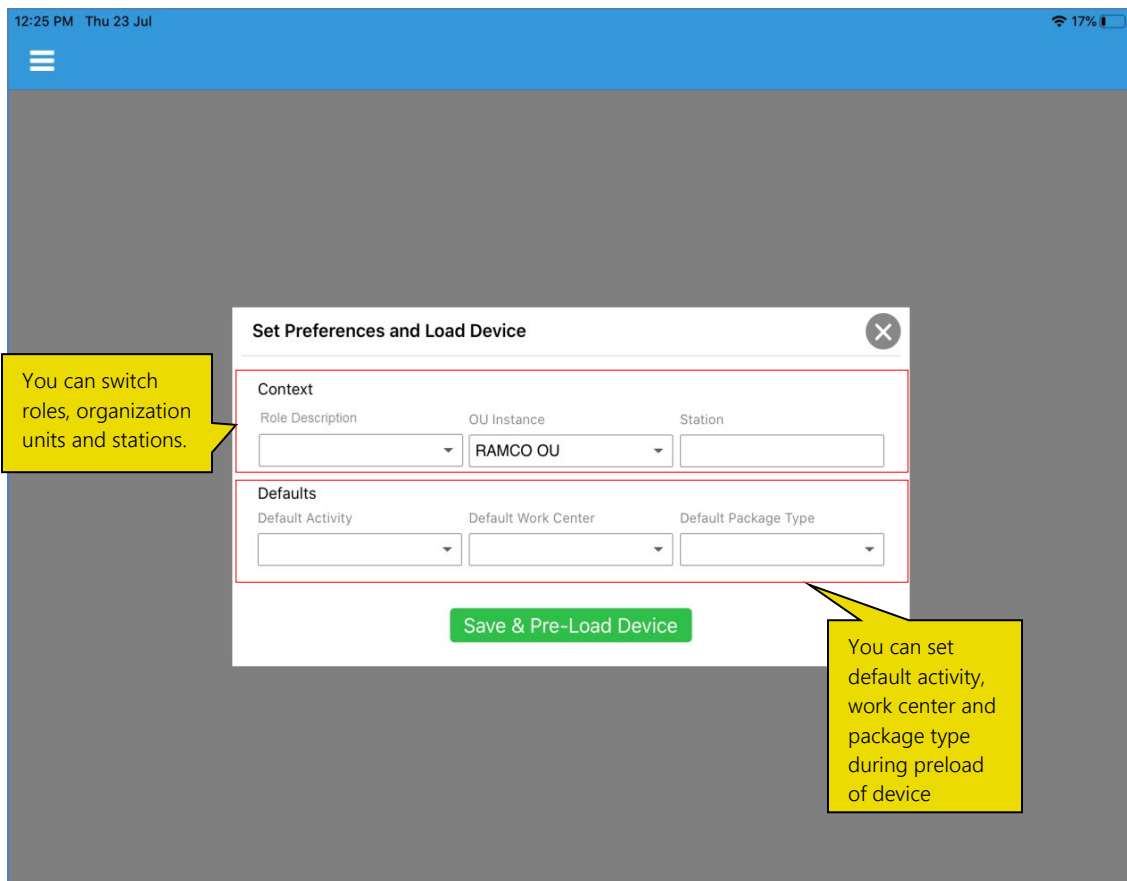

Figure 4.3: The Hamburger menu
2. Alternatively, tap the **Settings** icon in the **Hamburger** menu, the **Set Preferences and Load Device** pop-up appears. See Figure 4.3.